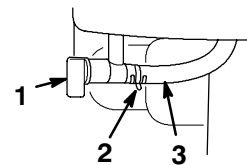

Figure 15
- **Fuel Shutoff Valve** (Fig. 15)—The valve is located under fuel tank. Close the valve to stop the fuel flow from the fuel tank and open the valve to allow the fuel to flow to the carburetor. Close the valve when you are not using the snowthrower.
3. Open the fuel shutoff valve (Fig. 15) by rotating it counterclockwise.
6. Close the fuel shutoff valve (Fig. 15).